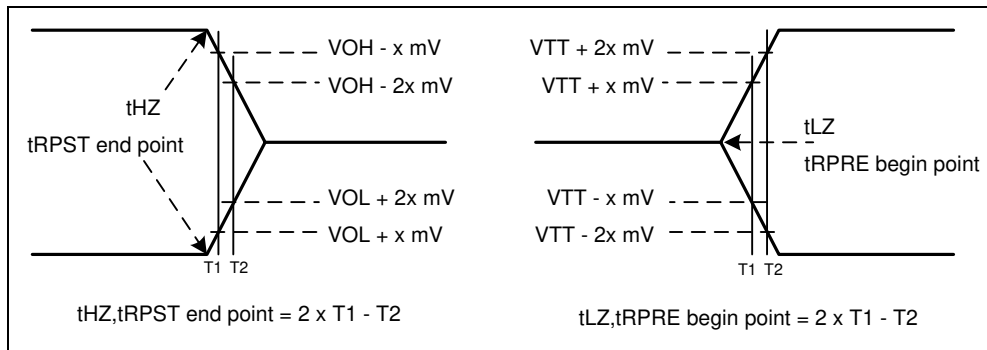

**Figure 17 – Differential input waveform timing – tIS and tIH**
10. There are two sets of values listed for Command/Address input setup time:  $tIS(base)$  and  $tIS(ref)$ . The  $tIS(ref)$  value (for reference only) is equivalent to the baseline value of  $tIS(base)$  at  $VREF$  when the slew rate is 1.0 V/nS. The baseline value  $tIS(base)$  is the JEDEC defined value, referenced from the input signal crossing at the  $V_{IH(ac)}$  level for a rising signal and  $V_{IL(ac)}$  for a falling signal applied to the device under test. See Figure 17. If the Command/Address slew rate is not equal to 1.0 V/nS, then the baseline values must be derated by adding the values from table of  $tIS/tIH$  derating values for DDR2-667, DDR2-800 and DDR2-1066 (page 55).
11. There are two sets of values listed for Command/Address input hold time:  $t_{IH}(\text{base})$  and  $t_{IH}(\text{ref})$ . The  $t_{IH}(\text{ref})$  value (for reference only) is equivalent to the baseline value of  $t_{IH}(\text{base})$  at  $V_{REF}$  when the slew rate is 1.0 V/nS. The baseline value  $t_{IH}(\text{base})$  is the JEDEC defined value, referenced from the input signal crossing at the  $V_{IL}(\text{dc})$  level for a rising signal and  $V_{IH}(\text{dc})$  for a falling signal applied to the device under test. See Figure 17. If the Command/Address slew rate is not equal to 1.0 V/nS, then the baseline values must be derated by adding the values from table  $t_{IS}/t_{IH}$  derating values for DDR2-667, DDR2-800 and DDR2-1066 (page 55).